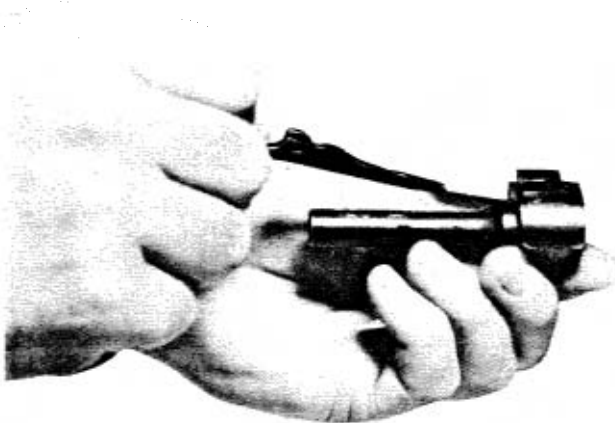

FIG. A-16. INSERTING FIRING PIN INTO BOLT
c. Hold the bolt with the left hand and insert the firing pin's front end in the bolt channel and push it forward into the bolt (Fig. A-16).